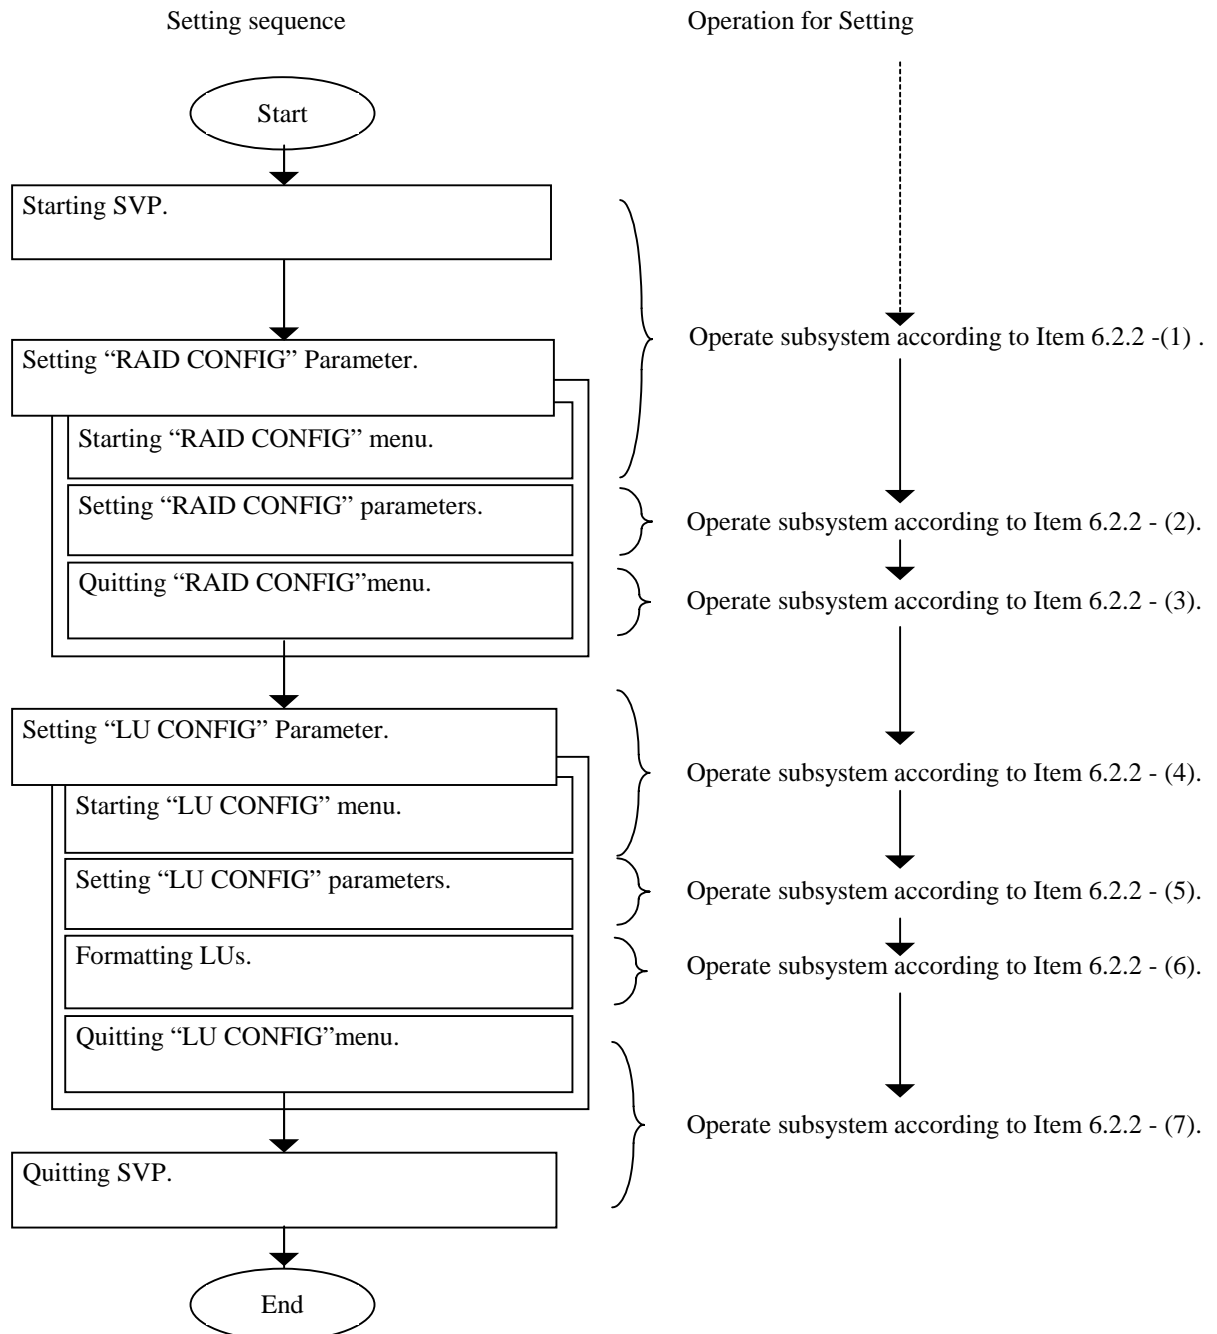

Figure 6.2.1 Sequence of Setting LOGICAL UNITs for Mini Tower Type
Figure 6.2.1 shows sequence of setting LOGICAL UNITs for Minitower type. Operate subsystem according to Item 6.2.2-(1) to (7).